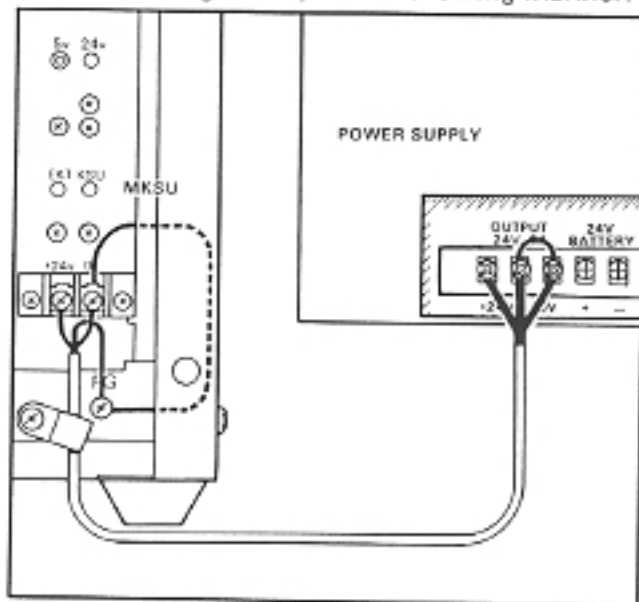

FIGURE 11—POWER CONNECTION
06.32 Disconnect the power supply from the 115 VAC outlet. Remove the plastic protective cover from the power terminal strip on the MTOU, and, with the supplied cord, connect the power supply to the terminal strip and the MKSU frame ground (see Figure 11) in the following manner.
06.33 Use the additional green wire packed with the system to bond the "E" and "0V" terminals on the power supply (see Figure 11).
06.34 For protection against static electricity, a green jumper wire is attached to the "FG" screw (refer to Figure 11). This wire must be connected to the "0V" terminal on the MTOU power strip. Reinstall the plastic protective cover on the power strip at this time.